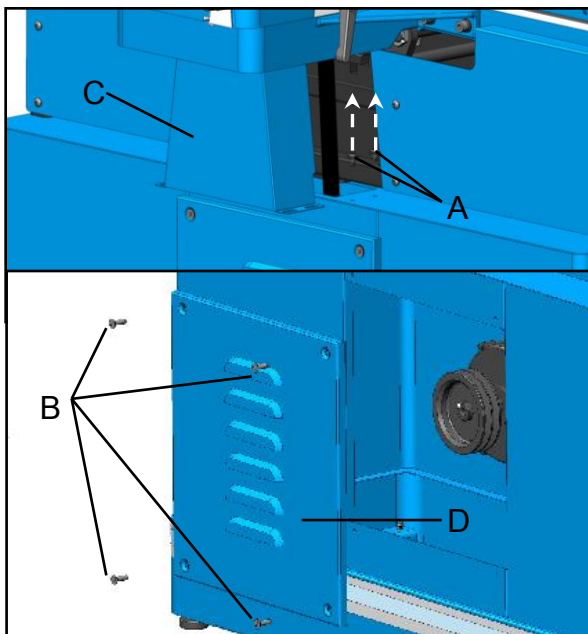

Fig. 26
1. Loosen screws (A) & (B) then remove the pulley cover (C) & cover (D) on the rear stand , Fig 26.